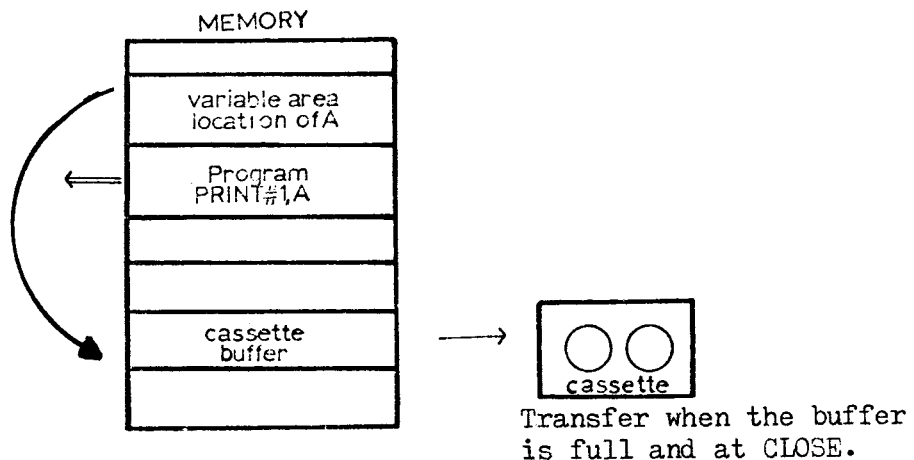

Fig. 1. Data transfer - PRINT#
Step 2. - When the cassette buffer is full, the data is moved from the buffer to the tape. This is also done when CLOSE is used. See Fig. 1